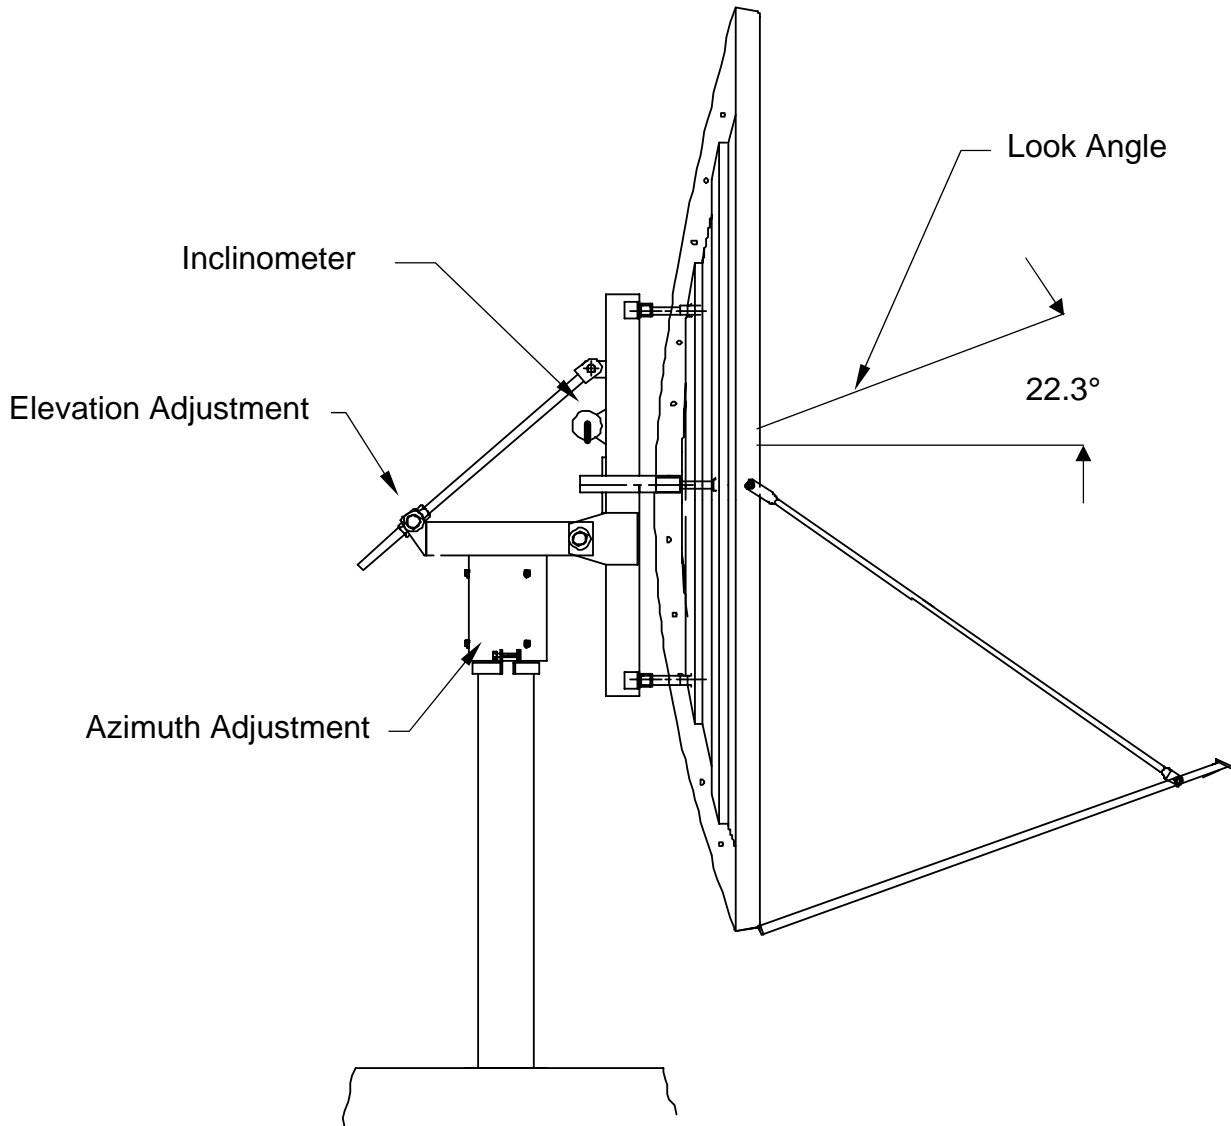

Figure 4
- 1) Place an inclinometer on the reflector support as shown in Figure 4. Remember to add 22.3 degrees to the reading to allow for the reflector's offset angle (or subtract 22.3 degrees if inverted)